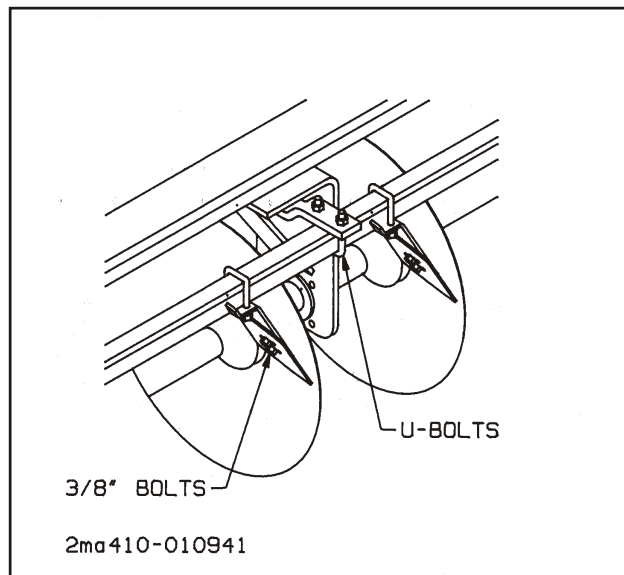

Figure 4-1 Disc Scraper Clearance to Disc Blade
- 4-2.5 Check disc scrapers for proper clearance to the disc blade. **See Figure 4-1.**